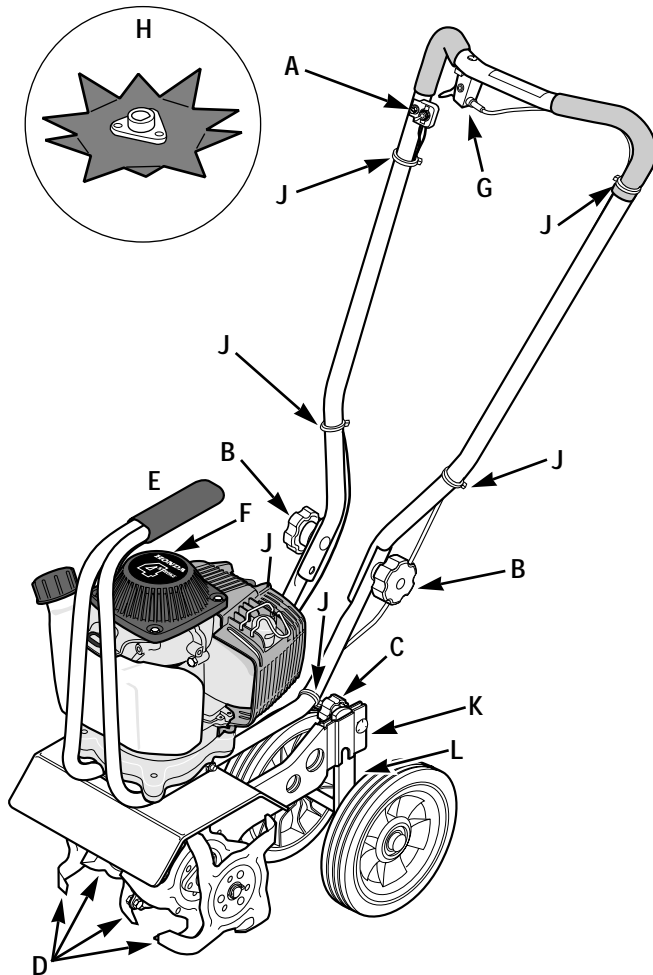

Figure 2: Features and controls.
Handlebar Height Adjustment Knob (B, Figure 2)
Tilling Depth Adjustment Knob (C, Figure 2)
Adjustable Tine Patterns (D, Figure 2)
Carrying Handle (E, Figure 2)
Edger Attachment (H, Figure 2)
Engine On/Off Switch (A, Figure 2)
Engine Recoil Start Rope (F, Figure 2)
Throttle/Tines Control Lever (G, Figure 2)
4. Check that the six plastic cable ties (J, Figure 2) are positioned as shown, and that the cables are not kinked or jammed.
To stop the engine, move the On/Off Switch (A, Figure 2) to the OFF position.
NOTE: Do not squeeze Engine Throttle/Tines Control Lever (G, Figure 2) when starting engine.
1. Move On/Off Switch (A, Figure 2) to ON position.